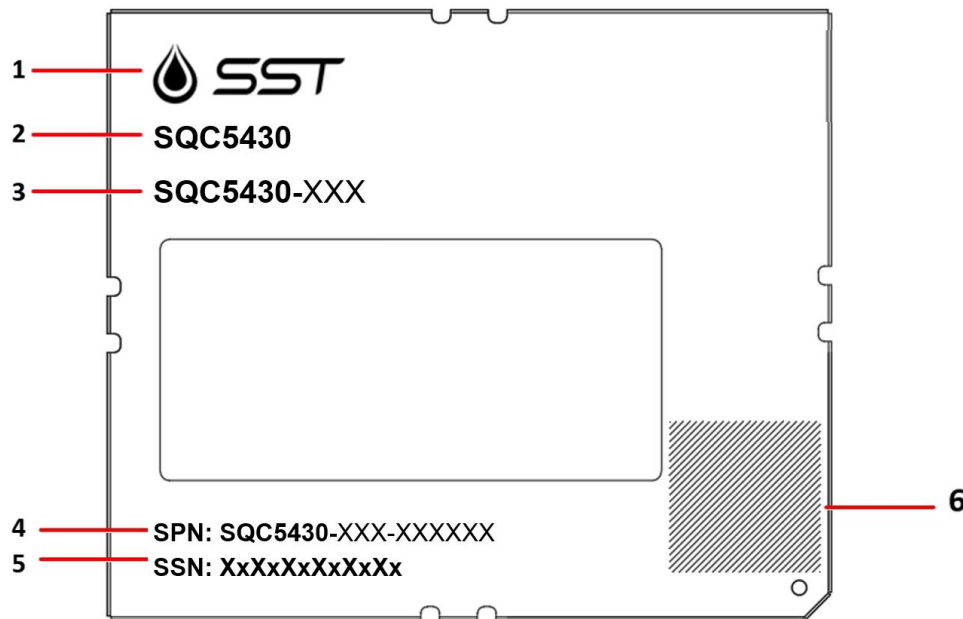

Figure 1-6. Laser Marking of SQC5430 SOM
Refer to Figure 1-6 for the module laser marking of SQC5430.
- Figure 1-6 is for reference only and may vary with the specific module.